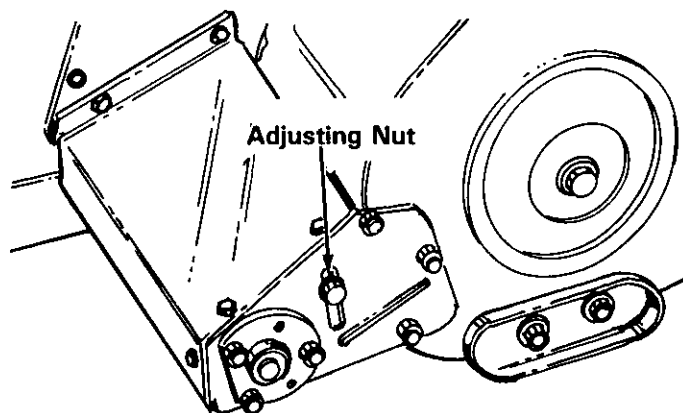

FIGURE 23
1. Disengage snow thrower and loosen the adjusting nut 2 or 3 complete turns. See figure 23.